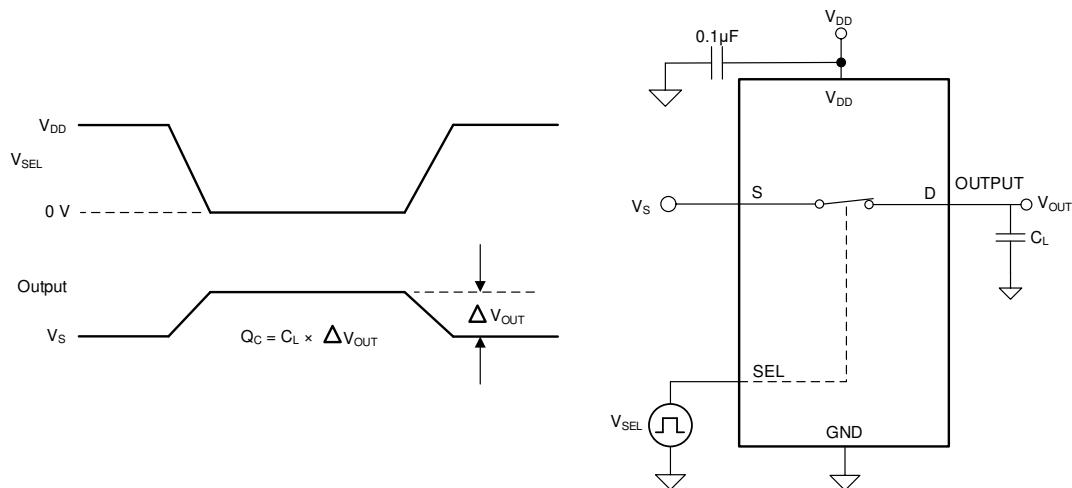

图 7-5. Charge-Injection Measurement Setup
The TMUX110x devices have a transmission-gate topology. Any mismatch in capacitance between the NMOS and PMOS transistors results in a charge injected into the drain or source during the falling or rising edge of the gate signal. The amount of charge injected into the source or drain of the device is known as charge injection, and is denoted by the symbol  $Q_C$ . 图 7-5 shows the setup used to measure charge injection from source (S) to drain (D).